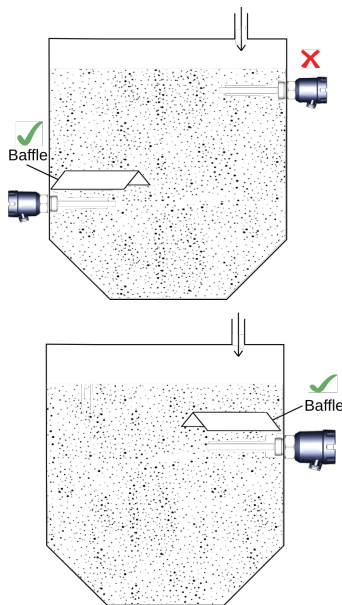

Figure 3: Correct Side Mounting
- For side-mounting, provide a baffle to prevent the application material from falling on the instrument. Please refer to Figure 3.